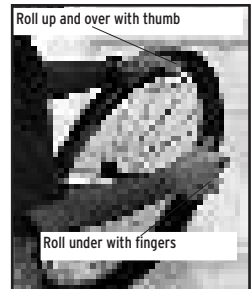
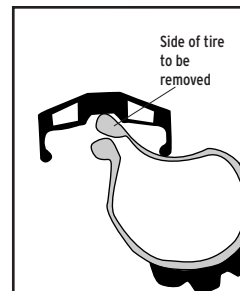

Fig. 4
Fig. 5
2. On tubeless compatible rims the bottom of the well is too narrow for both beads to rest fully against the rim bottom at the same time, so the tire must be placed to get one bead down. With the wheel facing you (Fig. 4), roll the tire up and away from the rim with your thumbs while you use your fingers to tuck the opposite bead into the rim well (Fig. 5).